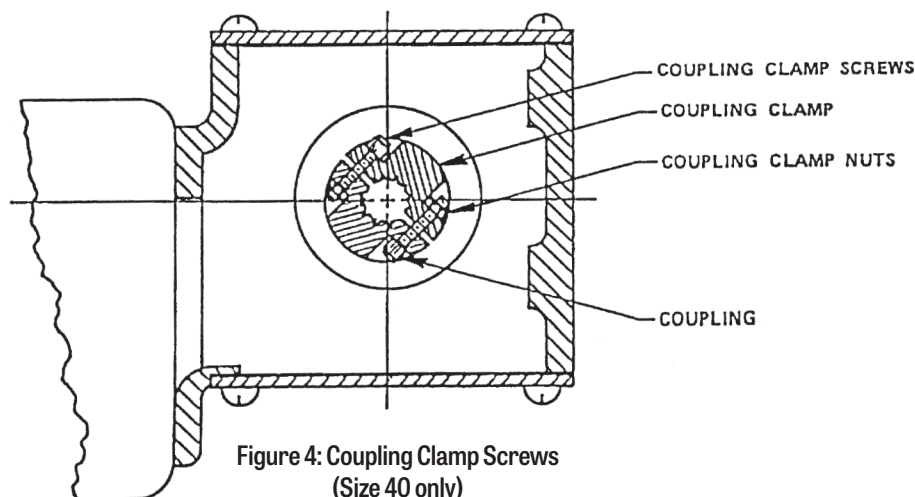

Figure 4: Coupling Clamp Screws
10. Remove the two coupling-clamp screws and nuts (one screw goes in from each side of the housing as shown in Figure 4 below) and remove the coupling clamp.
3. Place the link arm coupling assembly on the valve shaft as shown in Figure 4 below. The position of the link arm coupling is dependent upon actuator action and the mounting position of the actuator on the valve.
6. Install the coupling clamp on the coupling. The screws must be installed from opposite sides of the housing as shown in Figure 4, below.